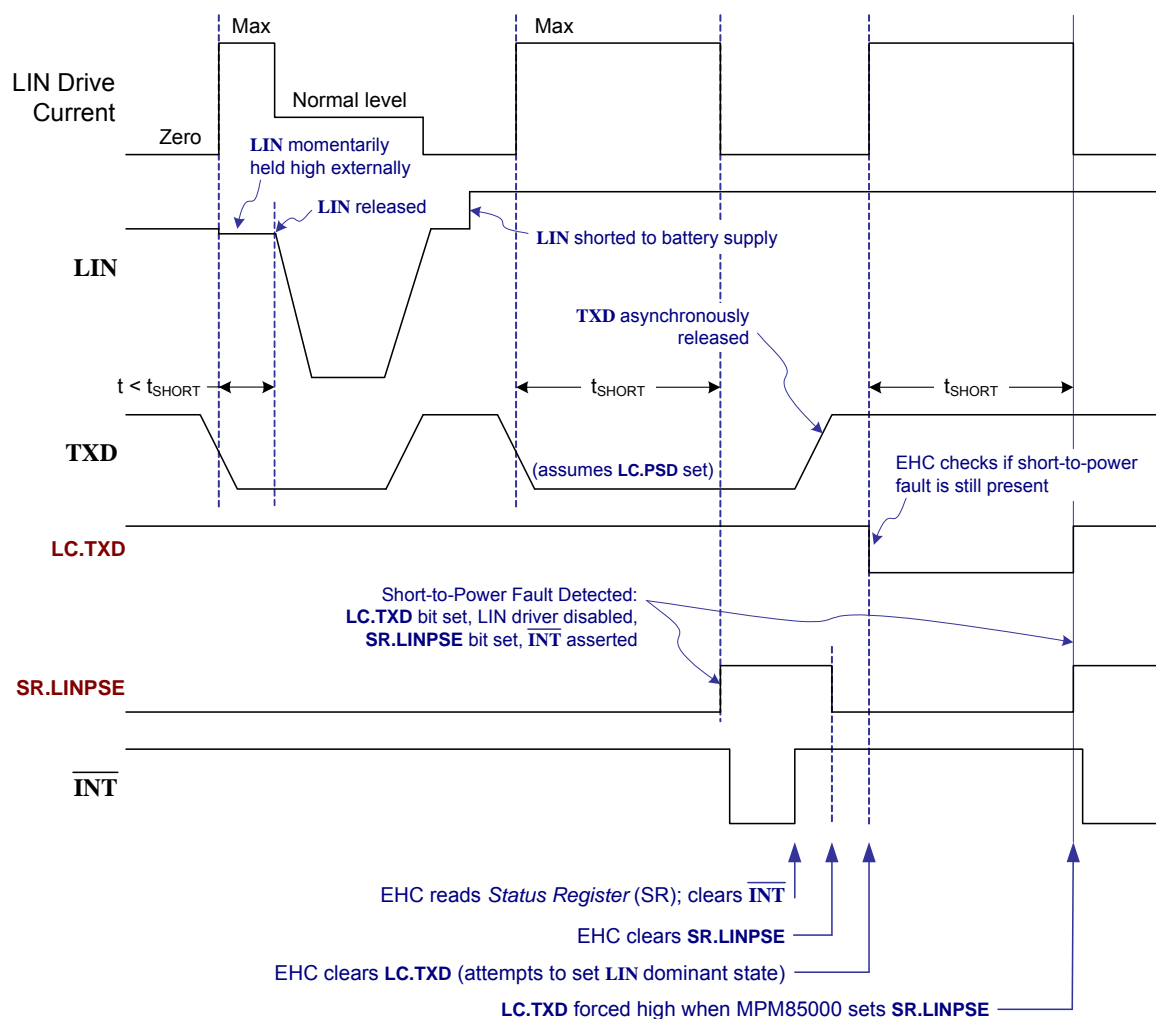

Figure 6-3: LIN Short-To-Power Example
When the MPM85000 tries to drive **LIN** low (due to **LC.TXD** being cleared, or by the EHC driving **TXD** low while **LC.PSD** is set) and the **LIN** pin stays high for longer than t_{SHORT} , the detection circuitry disables the **LIN** driver, sets the **SR.LINPSE** bit (see Section 10.2.2), and sets the **LC.TXD** bit (recessive state). When this occurs, an interrupt is generated ($\overline{\text{INT}}$ asserted low) to alert the EHC to the error condition. The EHC can clear the interrupt condition by reading the *Status Register* (SR); however, to re-enable the **LIN** driver and to be able to clear the **LC.TXD** bit, the EHC must first clear the **SR.LINPSE** bit. An example of the short-to-power detection functionality is shown in Figure 6-3.